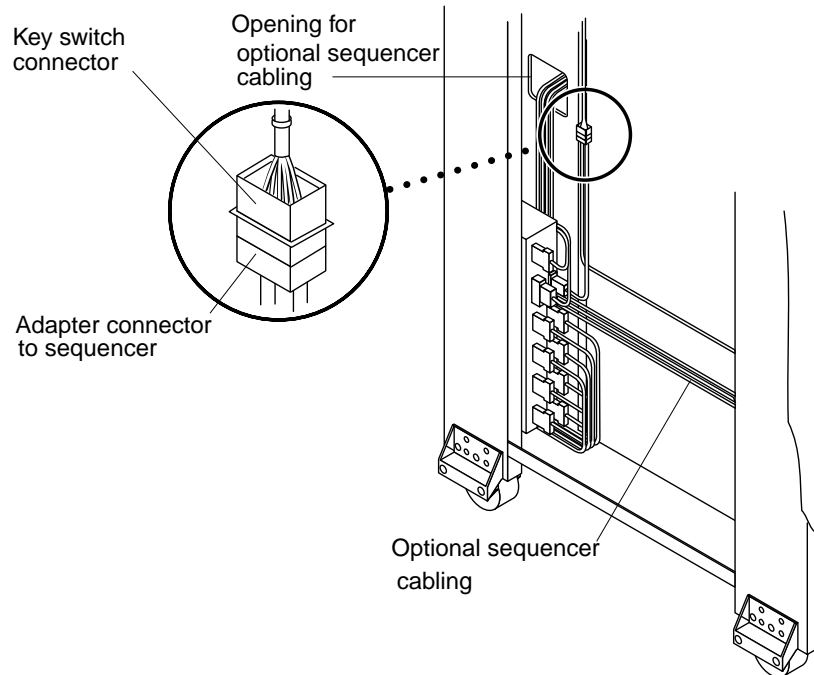

FIGURE 1-7 Key Switch Connector in the Sun Enterprise Expansion Cabinet
- FIGURE 1-7 Key Switch Connector in the Sun Enterprise Expansion Cabinet 9
6. Disconnect the existing power sequencer key switch cable connector (FIGURE 1-7 on page 1-9) from the adapter cable that goes to the sequencer and replace this cable with the split adapter cable that came with your optional sequencer.